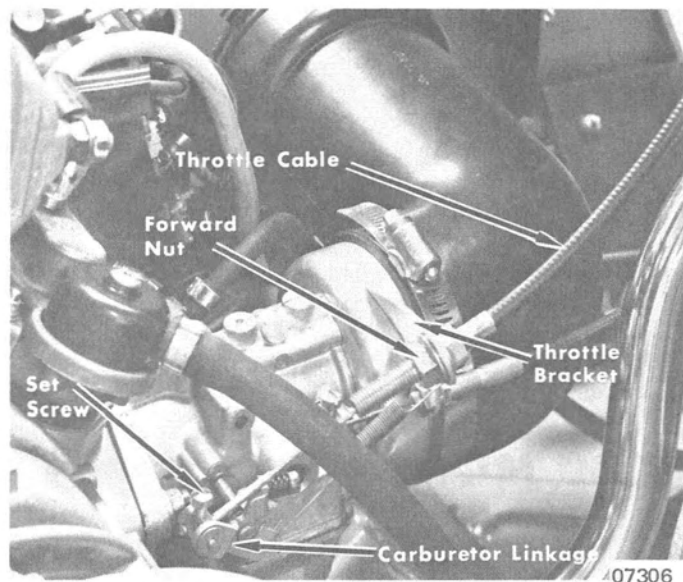

Figure 1. Throttle Cable to Carburetor
2. Loosen set screw on carburetor linkage. (Figure 1)
3. Remove forward nut from throttle bracket. (Figure 1)